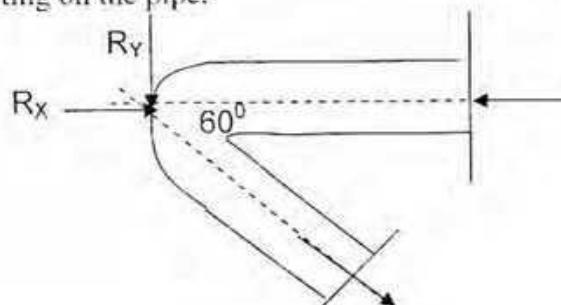

Figure 7
- c. Water enters in a  $120^\circ$  horizontal reducing pipe with a velocity of 5 m/sec and a pressure of  $80 \text{ kN/m}^2$  as shown in Figure 7. If the diameters at the entrance and exit sections are 25 cm and 15 cm respectively, calculate the components of the reaction e.g.  $R_x$  and  $R_y$  acting on the pipe. 14